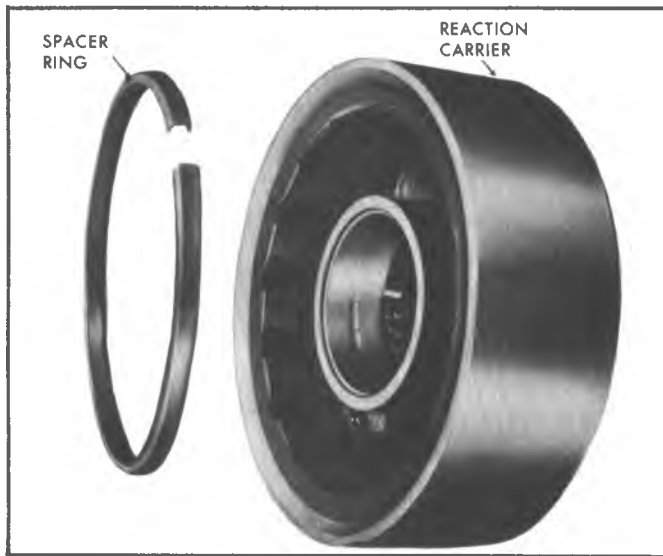

Fig. 12B—Inspecting Spacer Ring
1. If the reaction carrier has a spacer ring in an undercut at the bottom of the roller cam ramps, inspect it for damage (Fig. 12B).